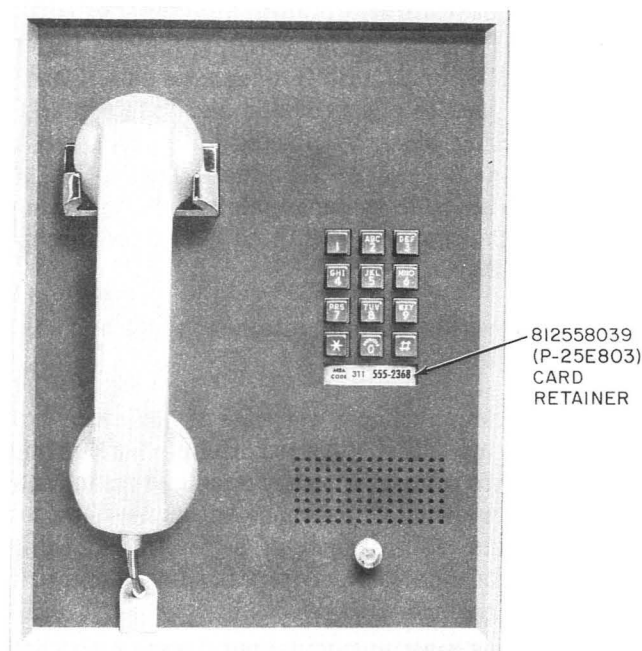

Fig. 1—2750-Type Telephone Set
1.01 This section contains information for the 2750A manufacture discontinued (MD), 2750B (MD), 2750AM (MD), 2750BM (MD), 2750AMG, and 2750BMG telephone sets (Fig. 1).